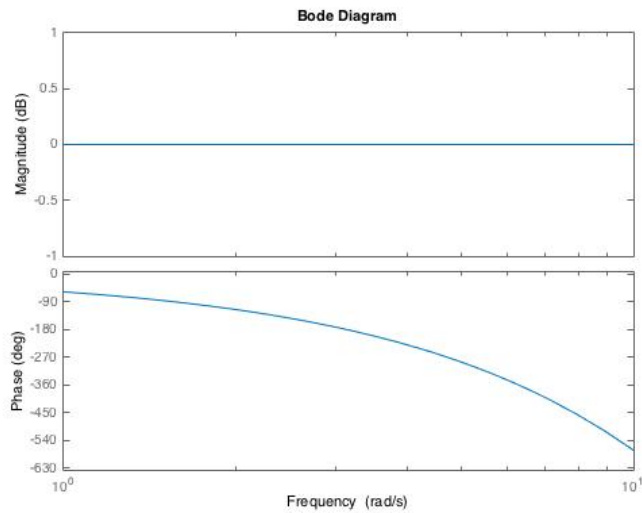

Figure 2: Bode Plot of Time Delay
2. The phase is usually wrapped to $(2\pi, 0]$ in Bode plots, so the Bode phase plot of a time delay is usually portrayed as in figure 2